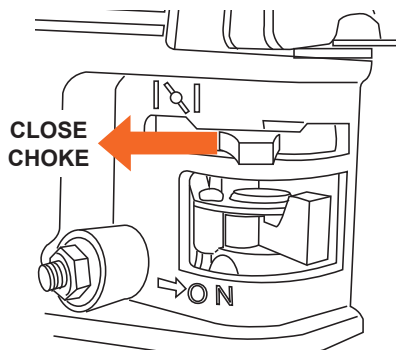

Figure 2
2. Turn the engine's choke lever to START (see Figure 2). Set the choke lever to the run position only when the engine has started or upon restarting a warm engine.